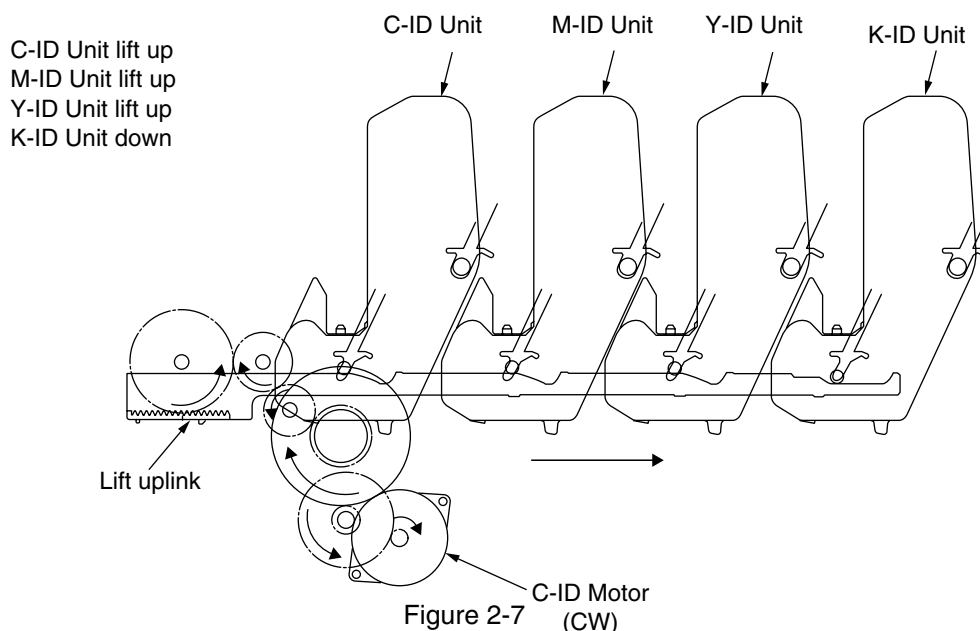

Figure 2-7
3. Figure 2-7 shows the motions of the different ID units when the printer is operated for monochrome print. As the lift-up motor rotates (Counterclockwise turn), the lift-up link slides to the right, causing the ID units to go up, except for the K-ID unit, as can be seen in Figure 2-7. Namely, the printer is readied for monochrome print.